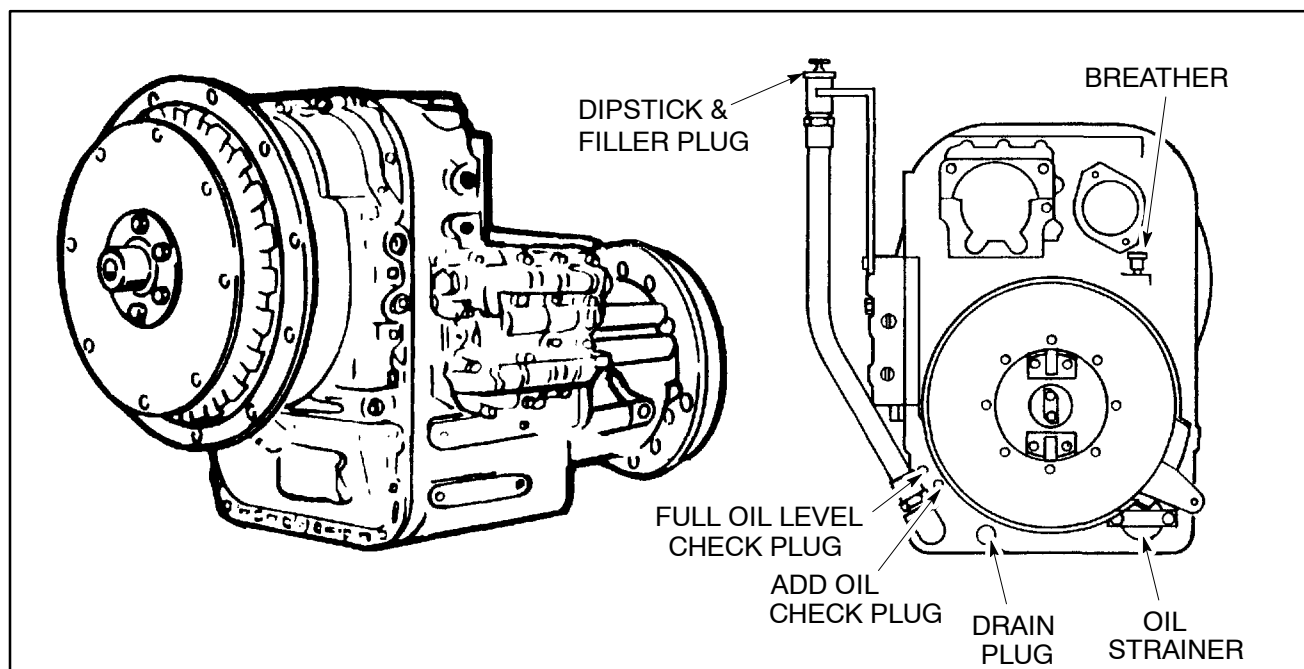

Figure 1. TRT-2000 Series Transmission
- a. Before starting the engine, remove the full oil level check plug (See Figure 1). If oil flows from the plug opening, the transmission has sufficient oil to permit the engine to be started without damaging the transmission.